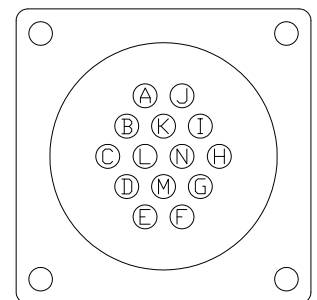

Figure 5-13-2
9. The UV Lamp Sockets are numbered 1 through 6. The wire from each UV Lamp Socket is wired back to the Pinned Receptacle and connected to a pin labeled A through N (refer to Figure 5-13-2). There are two UV Lamp Sockets with wire per Lamp. One is called the UV Lamp Socket Long Wire, the one that runs to the opposite end of the Pinned Receptacle. The other is called the UV Lamp Socket Short Wire, the one that is at the end with the Pinned Receptacle. Cut all the wires at the Pinned Receptacle. **CAUTION:** Do not pull the UV Lamp Long Wire at this time. It is needed to pull the new Lamp Socket Long Wire through the conduit tube.